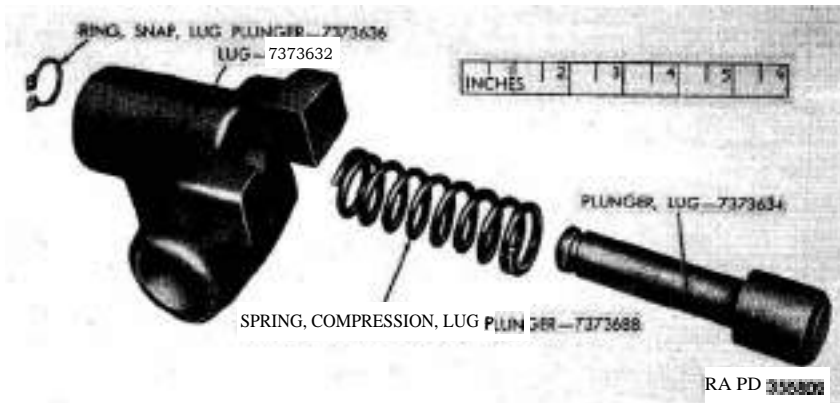

Figure 112. Reverse shifter shaft lug assembly—exploded view.
Note. Do not disassemble reverse shifter lug assembly (fig. 112) unless inspection (par. 122c) reveals that replacement of parts is necessary.
Note. If reverse shifter lug plunger (fig. 112) operates under considerable spring tension and the reverse shifter lug snap ring is in good condition, do not disassemble lug assembly.
- (1) If replacement of reverse shifter shaft lug assembly (*fig. 112*) is necessary (par. 122c), place lug plunger compression spring and lug plunger in lug.
- (2) Push plunger in lug and install lug plunger snap ring.